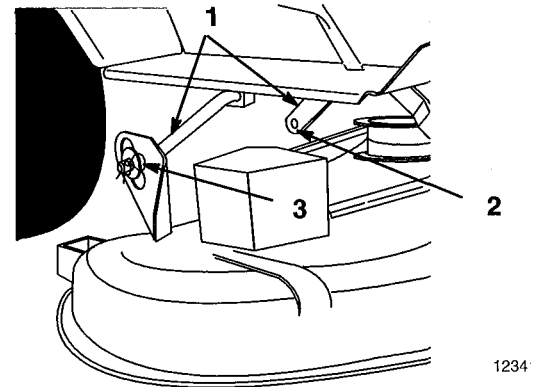

Figure 16
5. Remove hairpin cotter and washer from rear link and remove from attachment lift (Fig. 16).
6. Remove hairpin cotters and washers from rear lift arms (Fig. 16).
7. Slide deck right, off rear lift arms (Fig. 16).